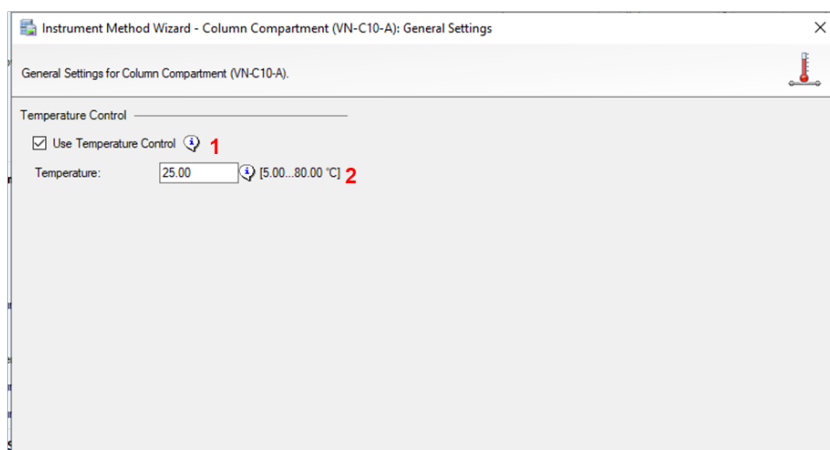

Figure 39: Page 7 - Column Compartment: General Settings
*Table 9: Key to Figure 39: Page 7 - Column Compartment: General Settings
Table 11: Key to Figure 39: Page 7 - Column Compartment: General Settings